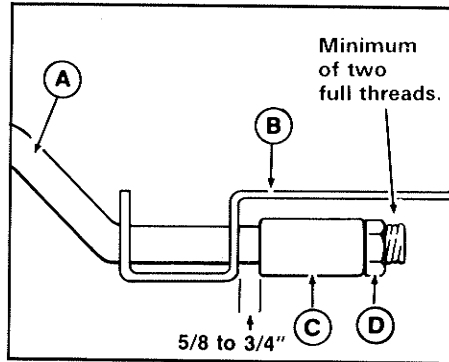

Figure 30. Brake Adjustment
- Locate the brake band (figure 30) which is located to the inside of left-rear tire.
- Measure the gap between the spacer and the brake band (figure 30). The gap should measure between 5/8 inch and 3/4 inch (16 to 19 mm). If not, loosen or tighten the brake rod nut (D) to achieve measurement. For safety, a minimum of two full threads must extend thru the nut.